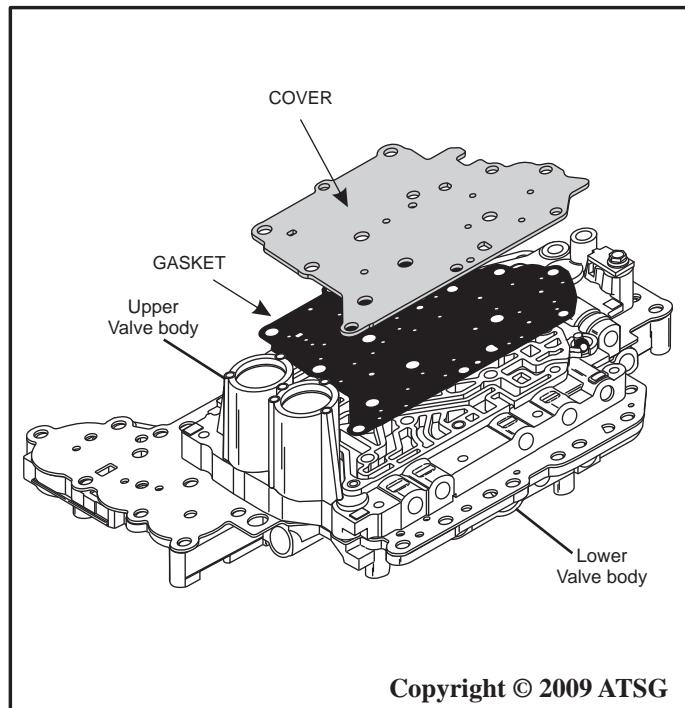

Figure 140
42. Install a new gasket on the Upper Valve body and assemble the cover over the new gasket as shown in Figure 140.